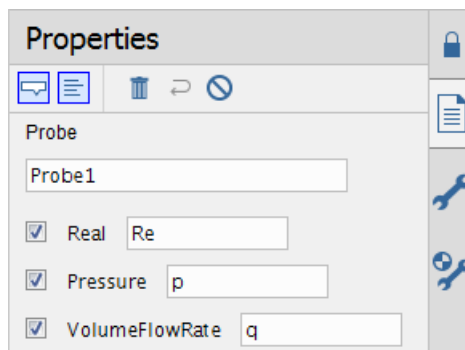

**Figure 6.15: Flow Through a Pipe**
**Figure 6.15** analyzes pressure and laminar flow rate characteristics through a pipe when pressure is applied to overcome internal frictional effects.
When analyzing the system shown in **Figure 6.15**, apply the Darcy equation.